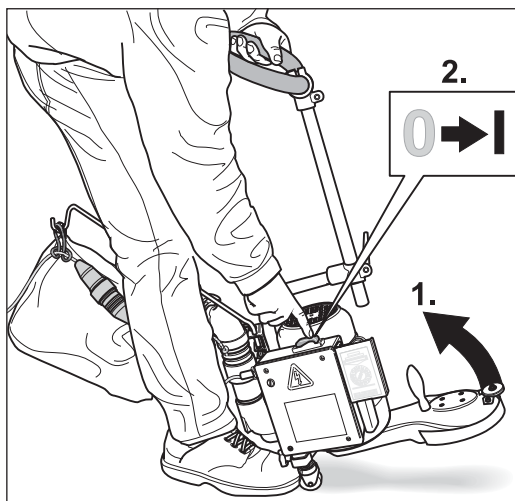

Fig. 36 To switch on the machine, tilt the UNICO slightly backward, use one hand to hold it by the handlebar and use your other hand to press the rocker switch.
- **Always** tip the machine backwards slightly before switching on the machine (Fig. 36, Fig. 37) so that the sanding disc is raised off the floor!
The UNICO is now ready to be started. When the machine is being switched on, the sanding disc wheel must be relieved of pressure slightly. Tilt the machine slightly backward. Depending on your working position, you will be using one hand to hold the handlebar on the extension (Fig. 36) or the machine handle on the attachment (Fig. 37). Now you can start the machine by pressing the rocker switch.